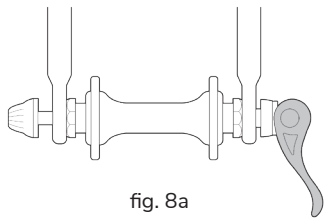

fig. 8a
2. With the steering fork facing forward, insert the wheel between the fork blades so that the axle seats firmly at the top of the fork dropouts. The cam lever, if there is one, should be on rider's left side of the bicycle (fig. 8a). If your bike has a clip-on type secondary retention device, engage it.
3. If you have a traditional cam action mechanism, holding the cam lever in the OPEN position with your right hand (fig 11b), tighten the tension adjusting nut with your left hand until it is finger tight against the fork dropout (fig. 8a). If you have a cam-and-cup system: the nut and cup will have snapped into the recessed area of the fork dropouts and no adjustment should be required.